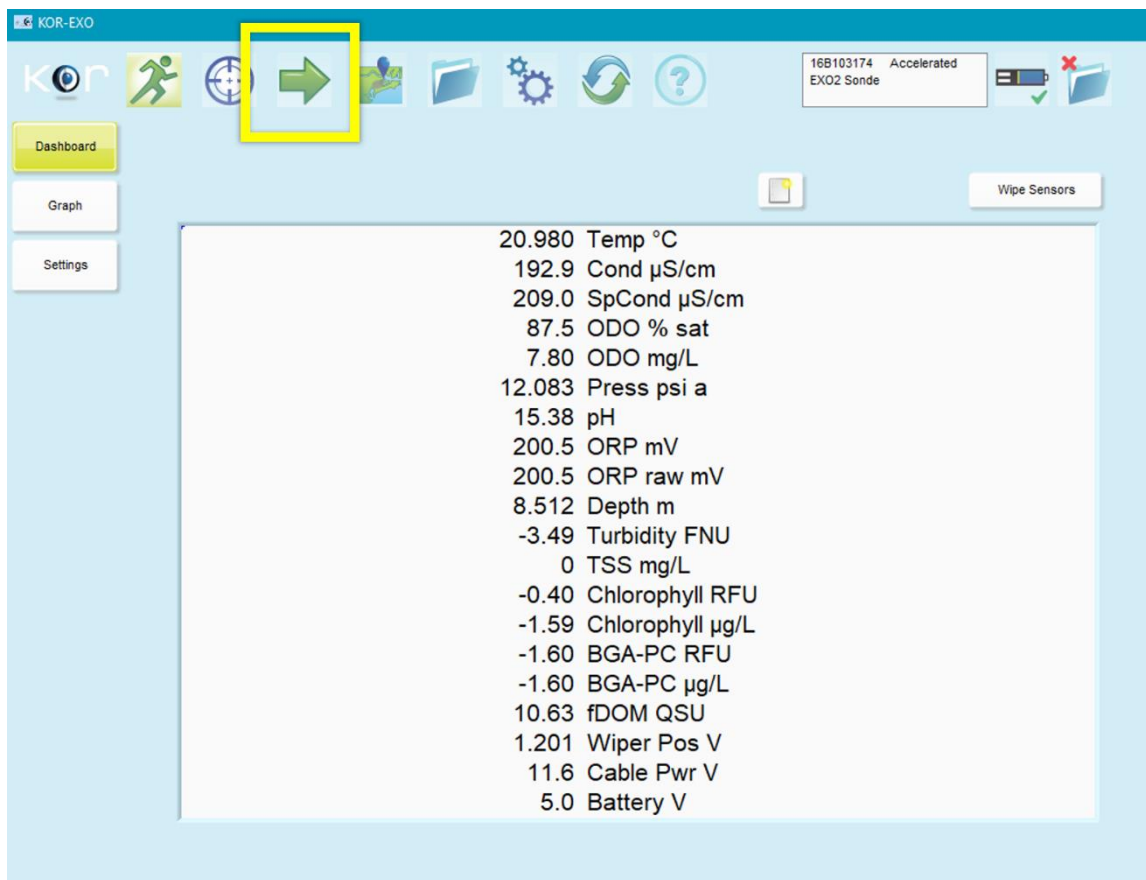
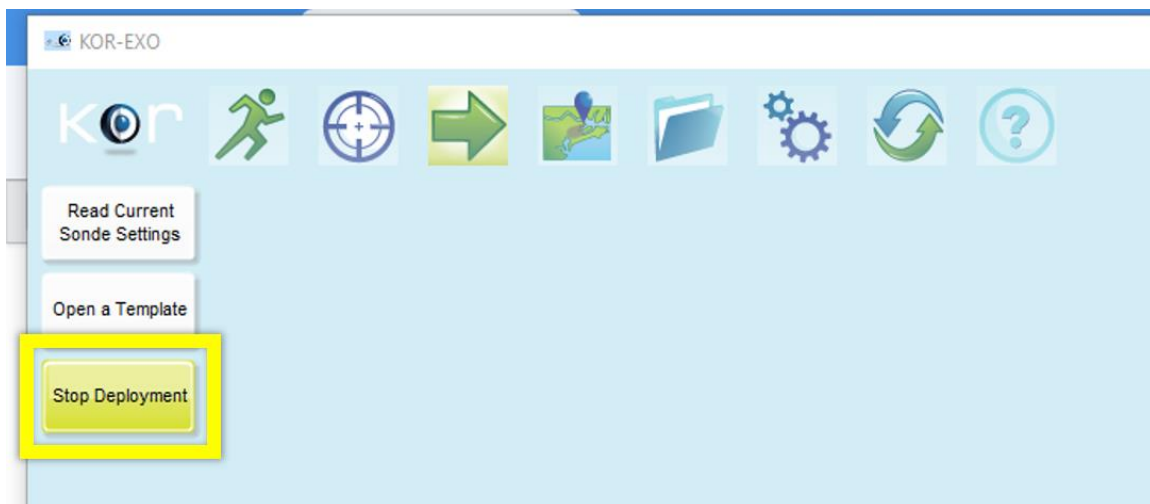

Figure 3. Navigate to Deployment Settings
Figure 10. Click "Stop Deployment" to Stop the Multisonde from Collecting Data
1. Open the KorEXO software on your laptop and navigate from the Menu bar to the **Deployment** Settings (click on the green arrow icon in Figure 3).
1. Open the KorEXO software and navigate to Deployment settings, reference Step 1 in Section 4.3, Figure 3. Navigate to Deployment Settings. Click **"Stop Deployment"** to stop the Multisonde from collecting data (Figure 10).